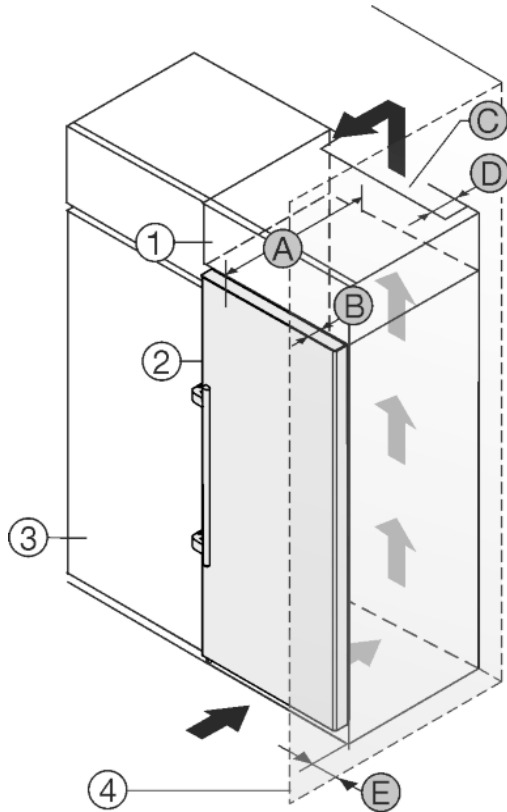

Fig. 9
The appliance can be built into kitchen units. A top cupboard Fig. 9 (2) can be added above the appliance in order to bring the appliance Fig. 9 (1) up to the height of the fitted kitchen units.
The appliance can be installed right next to the kitchen cabinet Fig. 9 (3). The appliance must stick out by the depth Fig. 9 (B) from the front of the cabinet so that the doors can be opened fully. The appliance may protrude further depending on the depth of the kitchen cabinets and whether wall spacers are used.
- There must be a ventilation shaft with the depth Fig. 9 (D) at the back of the top cupboard over the entire width of the cupboard.
- The ventilation shaft Fig. 9 (C) must be observed under the ceiling.
If the appliance is installed with the hinges next to a wall Fig. 9 (4) the distance Fig. 9 (E) between the appliance and the wall must be observed. This is how far the handle protrudes when the door is open.